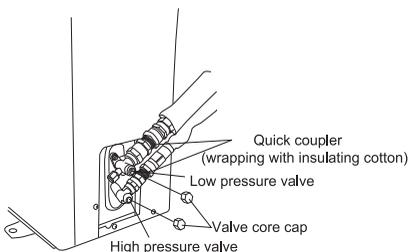

Fig.8
4. Turn on the high and low pressure valve cores with a socket wrench. Then, tighten the two valve core caps of the outdoor unit (Fig.8).